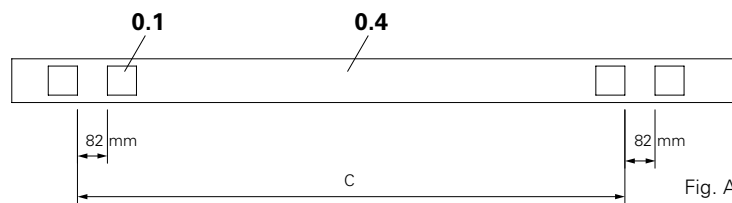

Fig. A1.02
- Gauge for bracket spacing (0.4) 1 plank 40 x 120 mm L = bracket spacing + max. 1.0 m Formlining blocks (4). (Fig. A1.02)
For spacings: see Fig. A1.02.